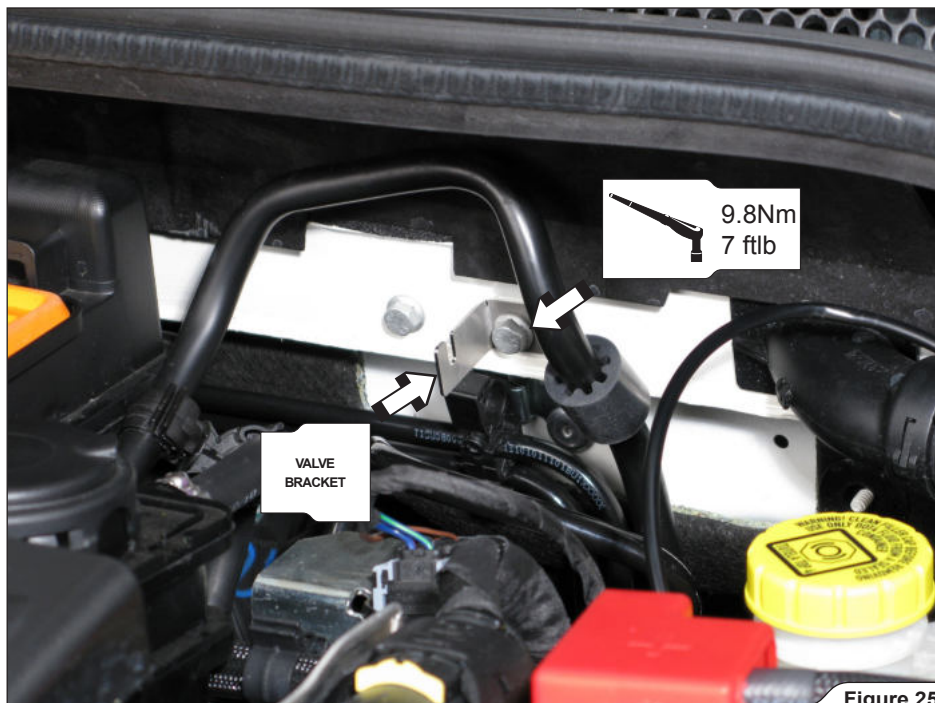

Figure 25
20. **For optional wireless kit only:** screw the electromagnetic valve's bracket onto the chassis, using marked original bolt (**Figure 25**).